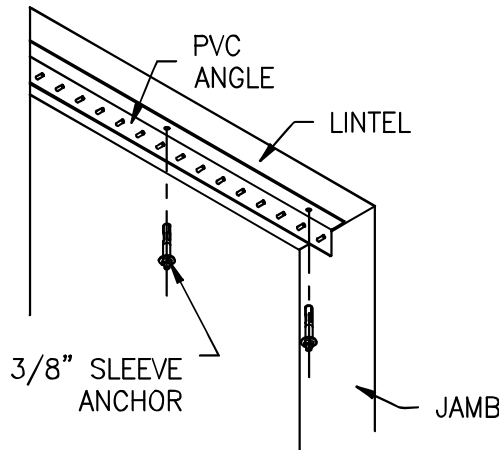

FIG. 3
- a. Put PVC angle into place against lintel (Fig. 3).
- d. Insert  $3/8''$  sleeve anchors and tighten with  $1/2''$  socket driver bit (Fig. 3).